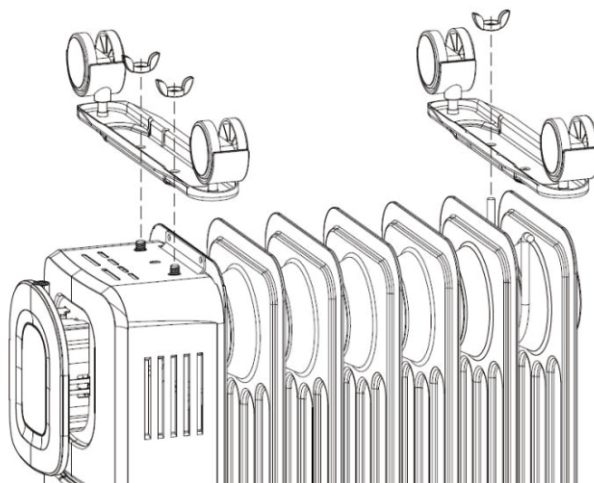

Figure 2 Castor Board Installation Diagram
(2)Turn the heater upside down, position the castor board between the end fins. Attach them to the U-bolts on the heater and tighten using the wing nuts provided., shown in Figure 2;